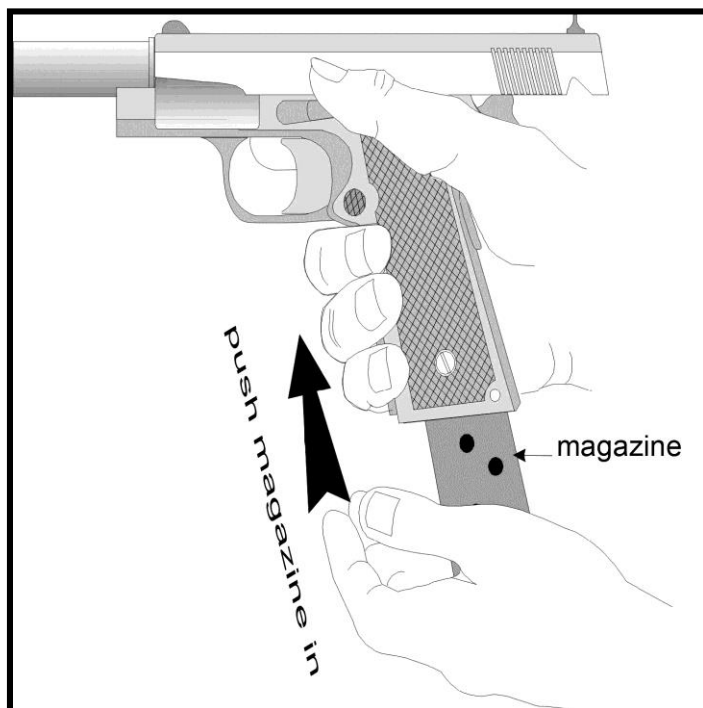

Figure 117. Inserting a Magazine to Load a Semi-automatic
- Lock the slide to the rear, normally by inserting the slide lock into the slide stop notch, where possible (Figure 117).